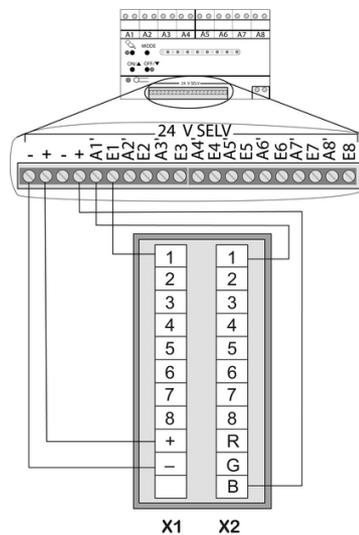
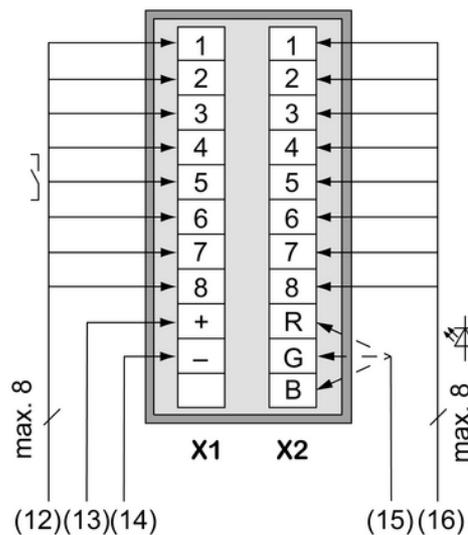

Figure 3: Connection example of channel 1 with status LED and blue operation LED
Figure 4: Wiring example for 4-gang push-button module
- (6) Push-button module
- (7) Labelling panel cover
- (8) Fastening screws, plastic
- (9) Buttons
- (10) Connection cable, max. 19-conductor
- (11) Box screws
- Mount supporting frame (4) in the right orientation on an appliance box. Note marking **TOP**. Use only the enclosed box screws (11).
- Push frame (5) onto supporting frame.
- Connect push-button module (6) to relay station or dimming station as shown in the connection example (figure 3)(figure 4).